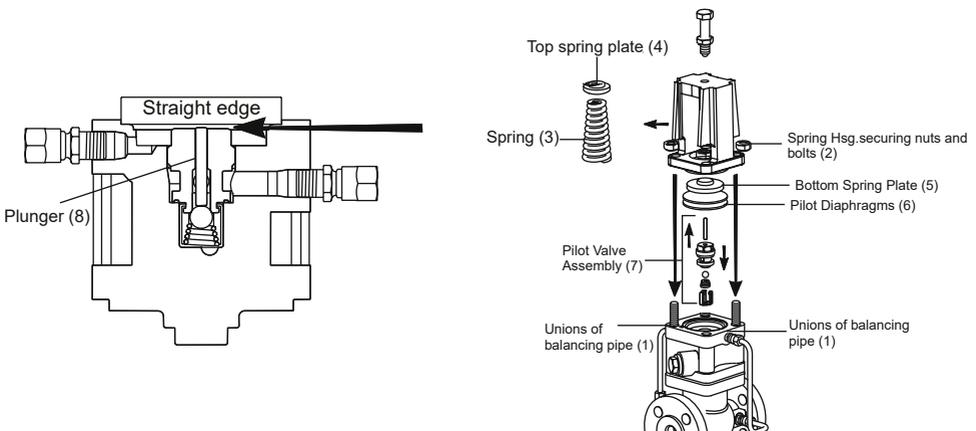

Figure 8 : Pilot valve assembly
7.5. Procedure to renew the pilot valve assembly: (Refer to Figure 8)